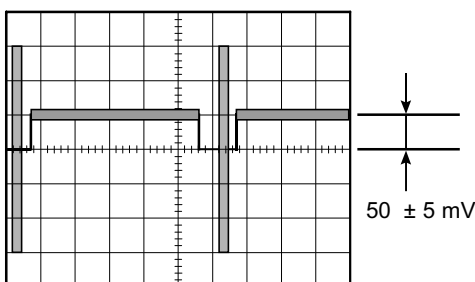

Fig. 4-18
- Confirm that the Pedestal level becomes 50 ± 5 mV as shown in Fig. 4-18.